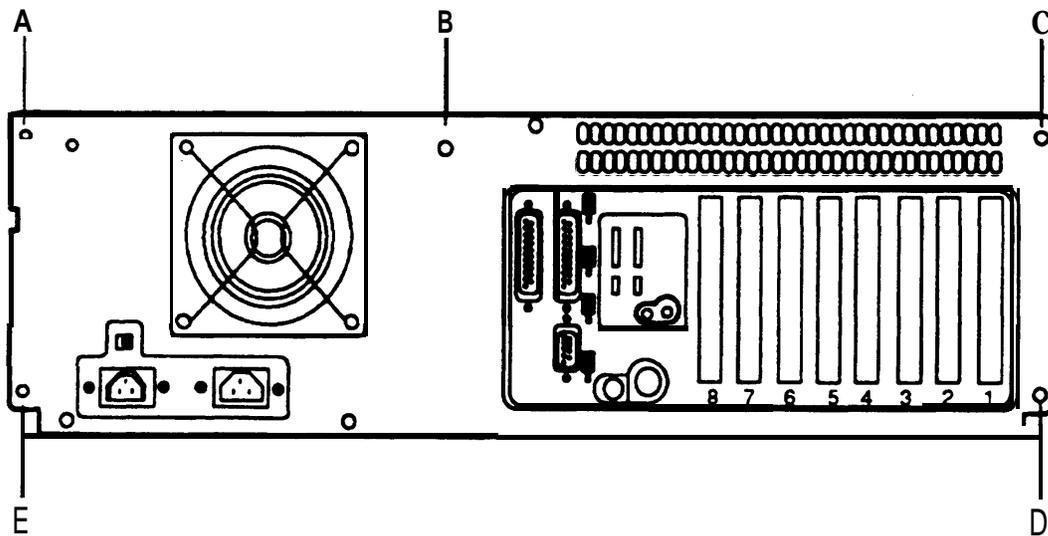

Figure 2-5. 6386/25 WGS Main Cover-Securing Screws
3. Loosen the five main cover-securing screws (**A** through **E**) on the back panel as shown in Figure 2-5.